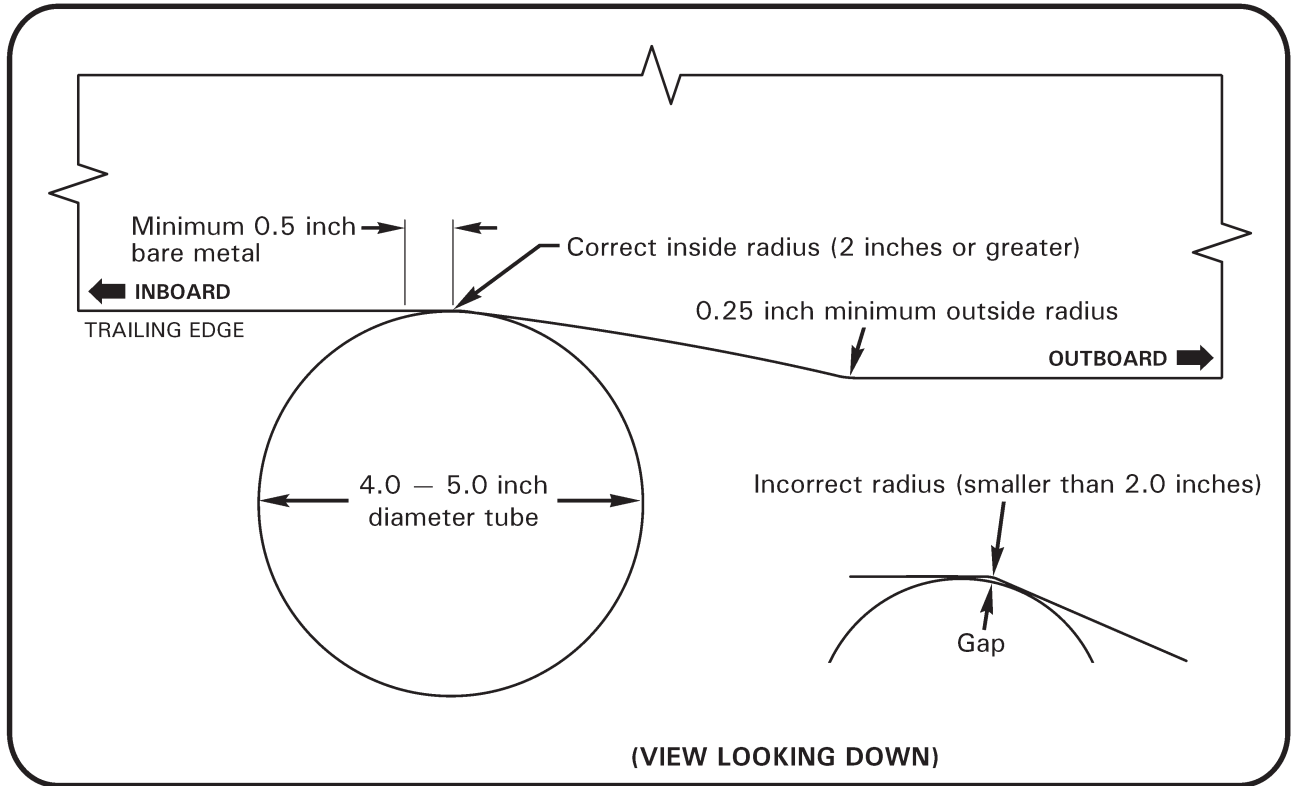

FIGURE 3
6. Refer to Figure 3. Wrap R7769-1 tube with 220-grit wet-or-dry aluminum-oxide or silicon-carbide abrasive paper. Holding tube perpendicular to blade trailing edge, sand edge spanwise to create a 2.0 inch minimum inside radius.
7. Finish edge by sanding spanwise using tube wrapped with 320-grit wet-or-dry aluminum-oxide or silicon-carbide abrasive paper. Remove any remaining paint or primer by sanding to expose trailing edge bare metal for minimum 0.5 inch inboard of radius as shown. Also sand a 0.25 inch minimum outside radius at corner shown in Figure 3.
8. Using R7769-1 tube as a gage, verify radius is a minimum of 2.0 inches as shown in Figure 3 (a radius that is too small will leave a gap between tube and trailing edge). Verify minimum chord after rework per MM § 9.141 (9.90 inches minimum inboard of rework).